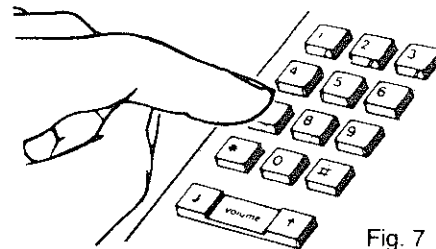

Fig. 7
3. Dial Keypad. The dial keypad is located on the front face of the unit (Fig. 7); this dial operates with tone service only. When the COMPANION 4S is turned on, the dial on the associated telephone is disconnected and all dialing must be done from the handsfree dial keypad.